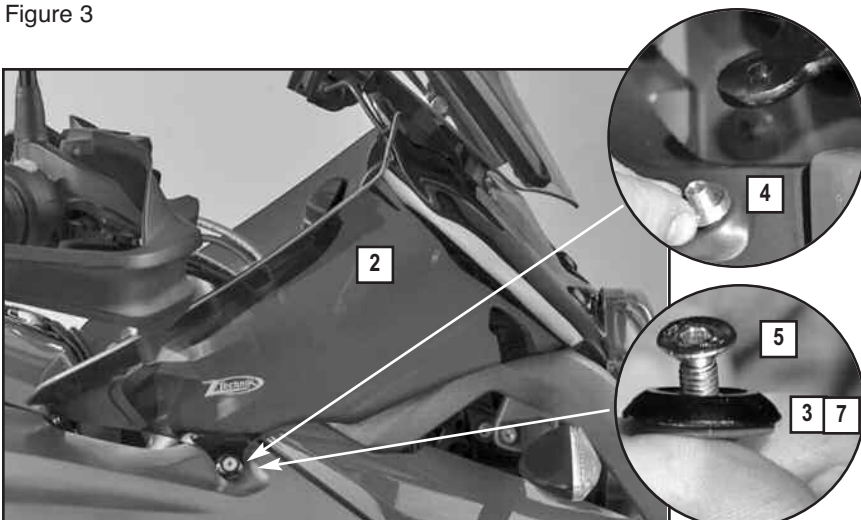

Figure 4
2. Place one Compression Limiter (4) into the hole as shown in figure 4. **Figure 4**
3. Insert Screw (5) into Cap with Washer (3,7). Install Winglet (2) using this assembly. **(3mm Hex Key) Figure 4**